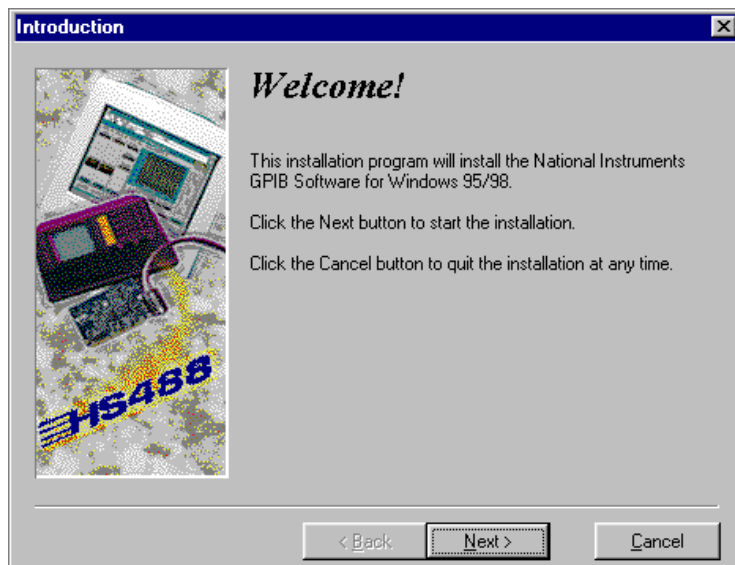

Figure 2-2. GPIB Software Setup Screen
4. Insert the *GPIB Software for Windows 95/98 (Disk 1 of 2)*, and click on the **Next** button to proceed. The software installation wizard begins with the screen shown in Figure 2-2.